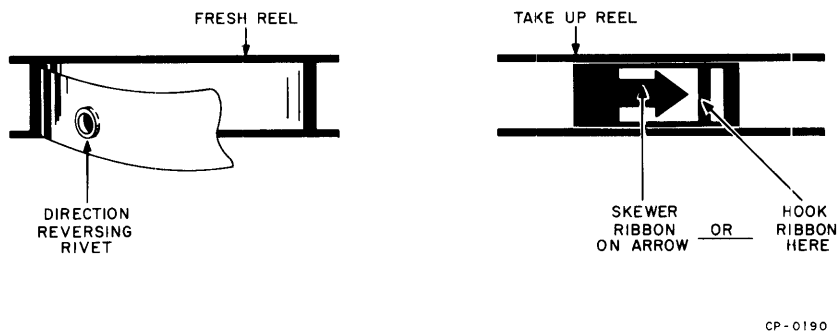

Figure 3-5 Securing Ribbon to Reel
6. Secure a new reel of ribbon and pay out approximately 1 ft. If the ribbon is not equipped with a hook at its end, skewer the ribbon on the arrow-shaped piece on the take-up reel (Figure 3-5).